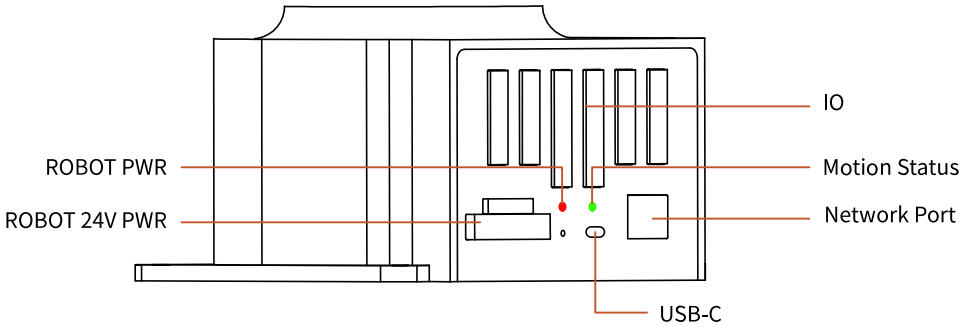

Figure 3
- Check the power and motion status indicator, as shown in Figure 3.